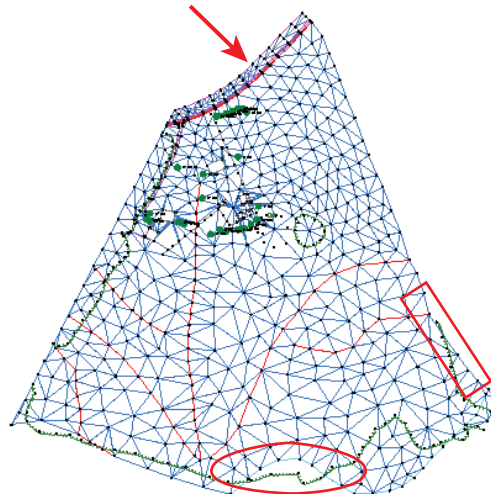

FIGURE 4.13 The extents of the surface after erroneous TIN lines have been removed. The areas of removal are highlighted.
6. Pan around the edge of the surface, and delete any other TIN lines that look like they don't belong. The resulting surface should look similar to Figure 4.13.